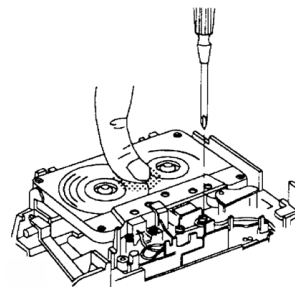

Fig. 1
If you wish to readjust the head azimuth, be sure to adjust with adhering the cassette tape closely to the mechanism by pushing the center of cassette tape with your finger. (Shown in Fig. 1)
2. Slide sensor cover on the laser power meter. (Fig. 1)